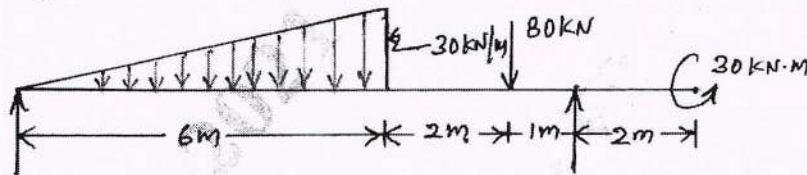

Fig. Q5(b)
- b. Develop shear force diagram and bending moment diagrams for the beam loaded shown in Fig. Q5(b) marking the values at salient points. Determine the position and magnitude of maximum bending moment.